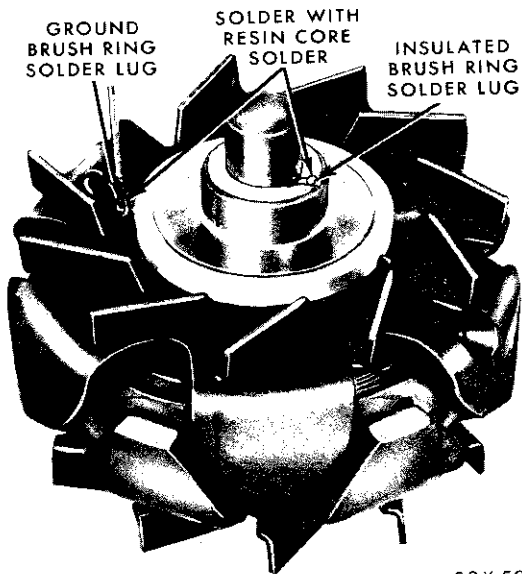
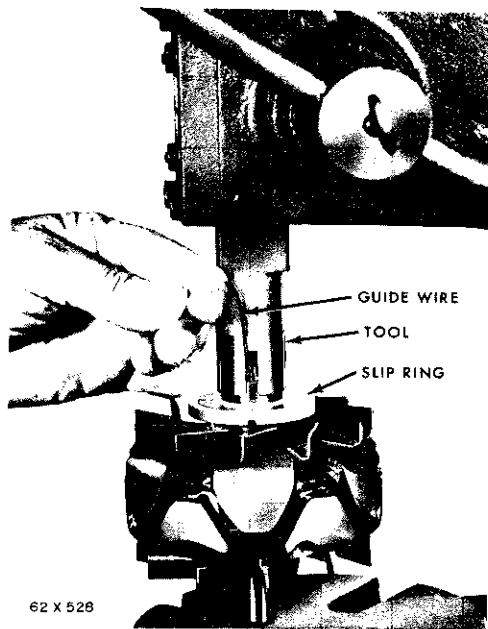

Fig. 30—Solder Points—Slip Ring Installed
Fig. 33—Installing the Slip Ring
- (b) Unsolder the field coil leads at the solder lugs (Fig. 30).
(k) Position rotor, slip ring and tool assembly in an arbor press (Fig. 33). Pull up on the guide wire being careful to guide the insulated field lead into the slip ring groove. While guiding the insulated field lead through the groove, press the slip ring on the shaft. When the slip ring is bottomed on the rotor fan the end of the field lead (insulated brush ring) should be visible at the solder lug (Fig. 30).